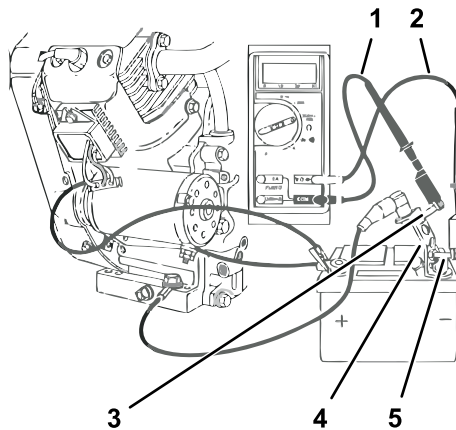

Figure 107
3. Insert red test lead into V $\Omega$  receptacle of the meter. Connect the other end of the red test lead to the post terminal of the shunt Figure 107.